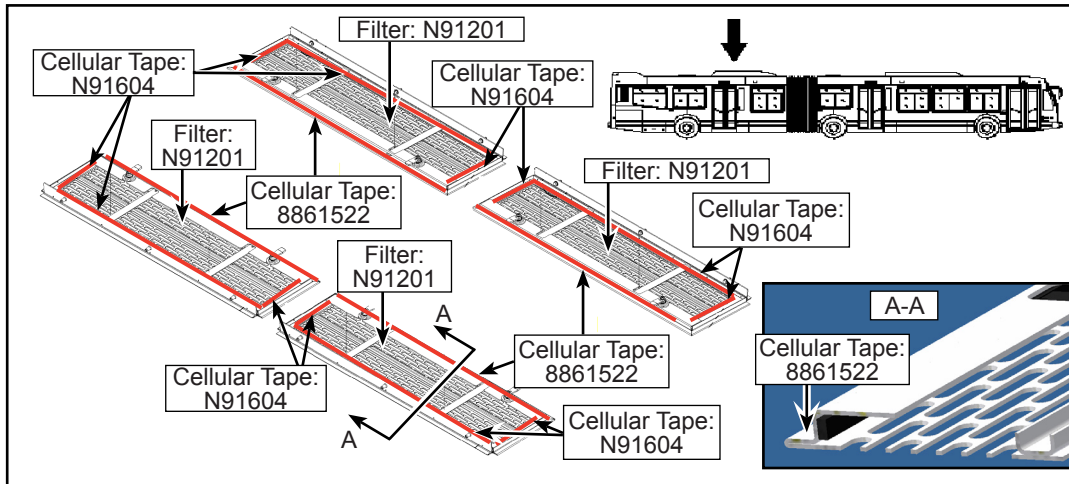

Figure 7 - Installation of Filter and Cellular Tape (Rear Section)
- 1.14. Clean the bonding surfaces and install the indicated new foam tape on the interior perimeter of the grill assemblies as shown (see Figure 7). Ensure that there are no gaps left.
- 1.15. Replace the existing filter with new aluminium bordered filter on the grill assembly in the rear section of the vehicle (see Figure 7).